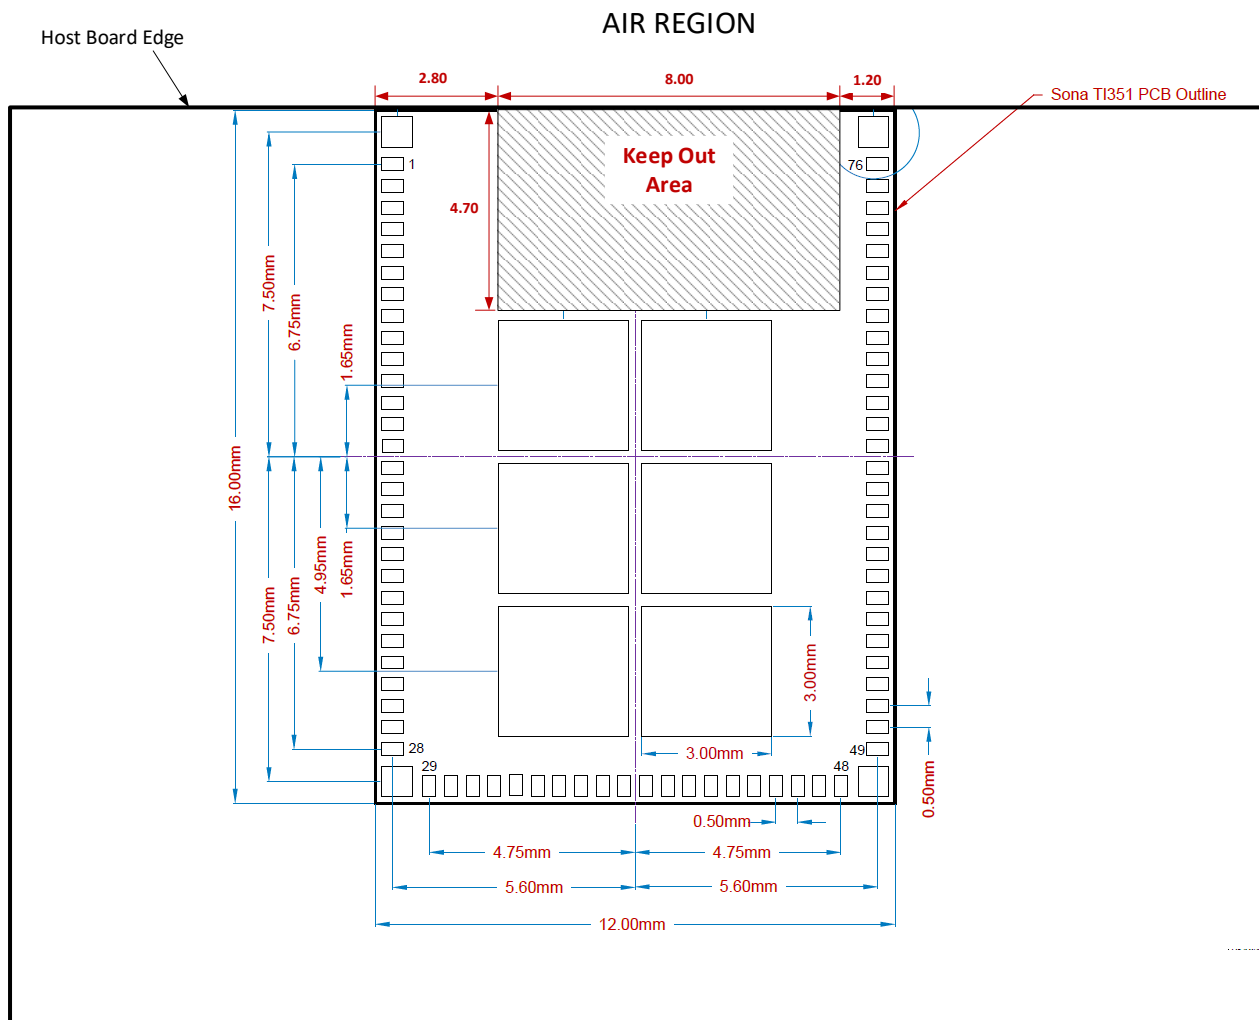

Figure 8: TI351 Integrated Chip Antenna Module Host Board Keep Out requirements.
- The Sona TI351 Integrated antenna variant MUST BE located at the edge of the Host PCB and surrounded by ground on three sides. The antenna keep out region as defined in **Figure 8** must be kept clear of copper on all layers of the host PCB. Extending the ground on the Host PCB $\geq 15\text{mm}$ from the module edge in each direction will optimize antenna performance.